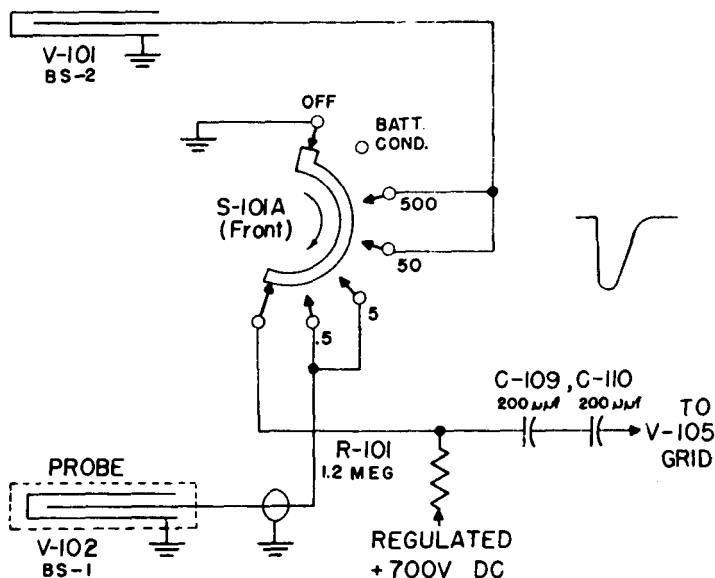

Figure 2-3. Detector Circuit
a. DETECTOR CIRCUIT. (See Fig. 2-3)--The detector circuit consists of G-M tubes V-101 and V-102, anode load resistor R-101, coupling capacitors C-109, C-110, and section S-101A of range switch S-101.